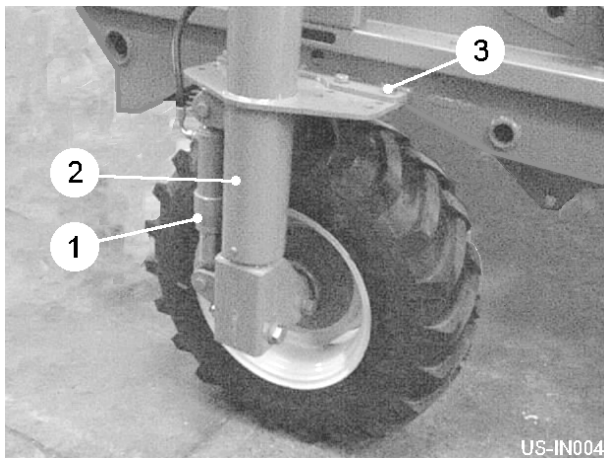
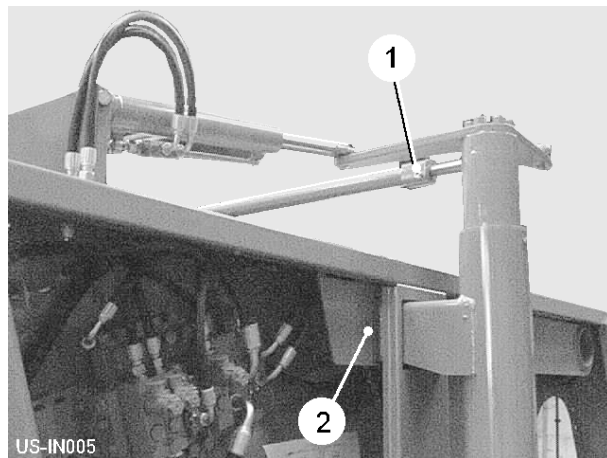

Fig 6
Fig 7
The two axle level switches operate the LH and RH levelling rams (item 1, fig 6). Moving the switch to left will lower the LH side machine. Moving the switch to the right will raise the machine.
Each wheel is carried by a wheel leg pillar (item 2, fig 6) The pillars have a top and bottom flange plate containing a series of fixing holes. Moving the pillars in or out adjusts the wheel centres to suit the selected bed width. Both wheel legs must be set to the same hole positions so that the wheels remain symmetrical about the centreline of the machine. Lifting equipment must be used when setting the wheels.
Release the track rod locking bolt (item 1, fig 7) and remove the flange plate mounting bolts (item 3, fig 6 & item 2, fig 7). Using lifting equipment, carefully slide the leg pillar to the required position. Refit the mounting bolts (item 3, fig 6 & item 2, fig 7) through the relevant hole in the flange plates. Repeat the procedure for the opposite wheel. Finally, set the track rod to the correct length and secure using the locking bolt. Ensure all nuts and bolts are fully tightened after adjustments have been completed.